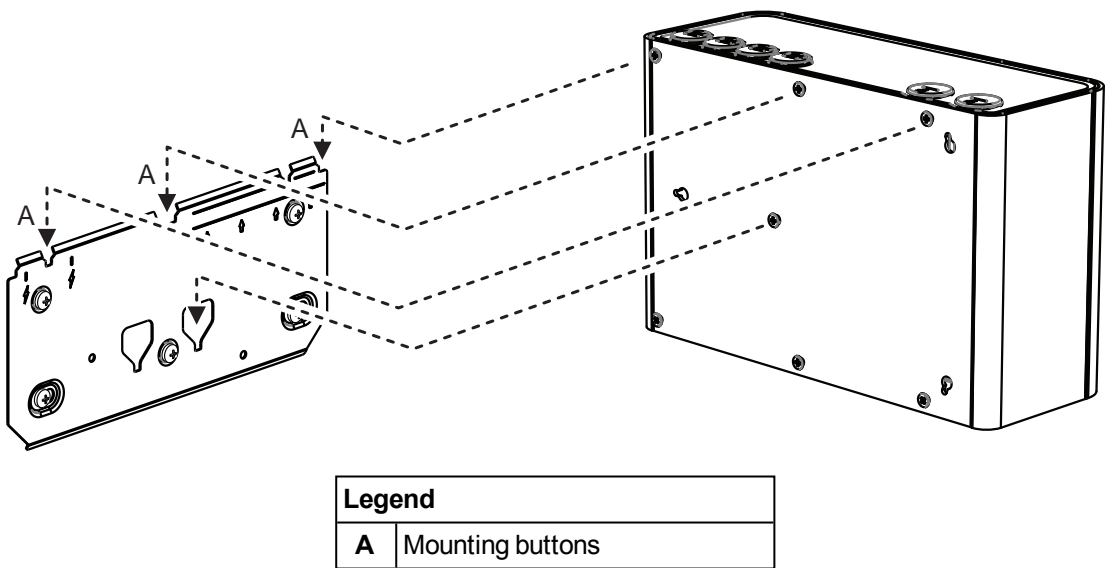

Figure 4-21: Mounting the detector
6. Align the mounting buttons (A) on the rear of the detector with the mounting button slots on the mounting bracket, and slide the detector down until the top of the detector is flush with the top of the mounting bracket (Figure 4-21).